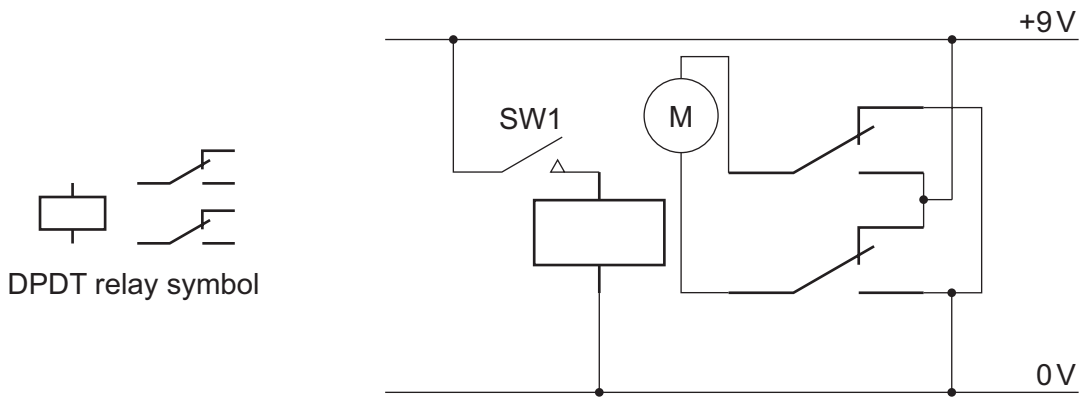

Fig. 20
- (b) A radio-controlled toy car can be made to reverse when a push-to-make switch, connected to the coil of a DPDT relay, is pressed. The circuit is shown in Fig. 20.